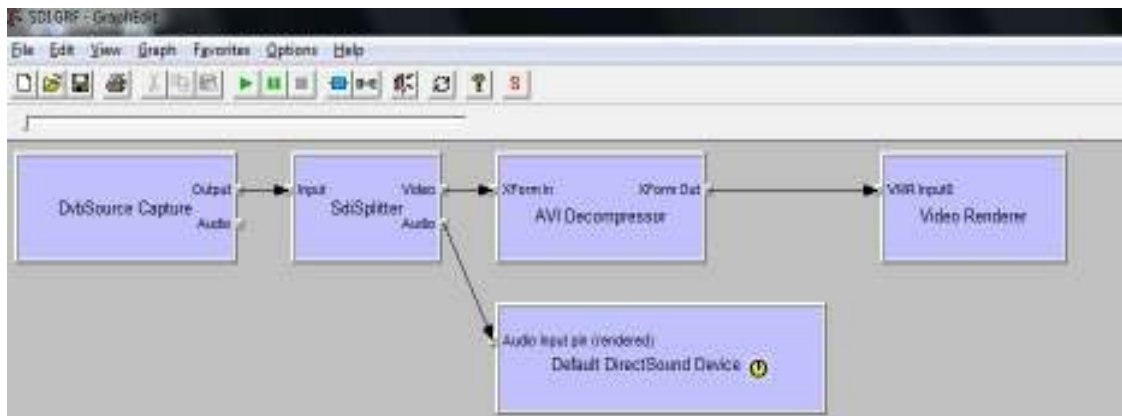

Figure 5.5 SDI board filter settings
- With the DvbSource Capture filter and Sdisplttter boxes inserted into the graph. Right click on the “output” pin of the DvbSource Capture box and select render. Similarly right click on the Video pin and Audio pin of the SdiSplitter box to render pins. GraphEdit should then connect all the filters like the following screen shot. Note: Ignore the “audio” pin on the “DVBSource” filter. **Fig 5.5** illustrates this example